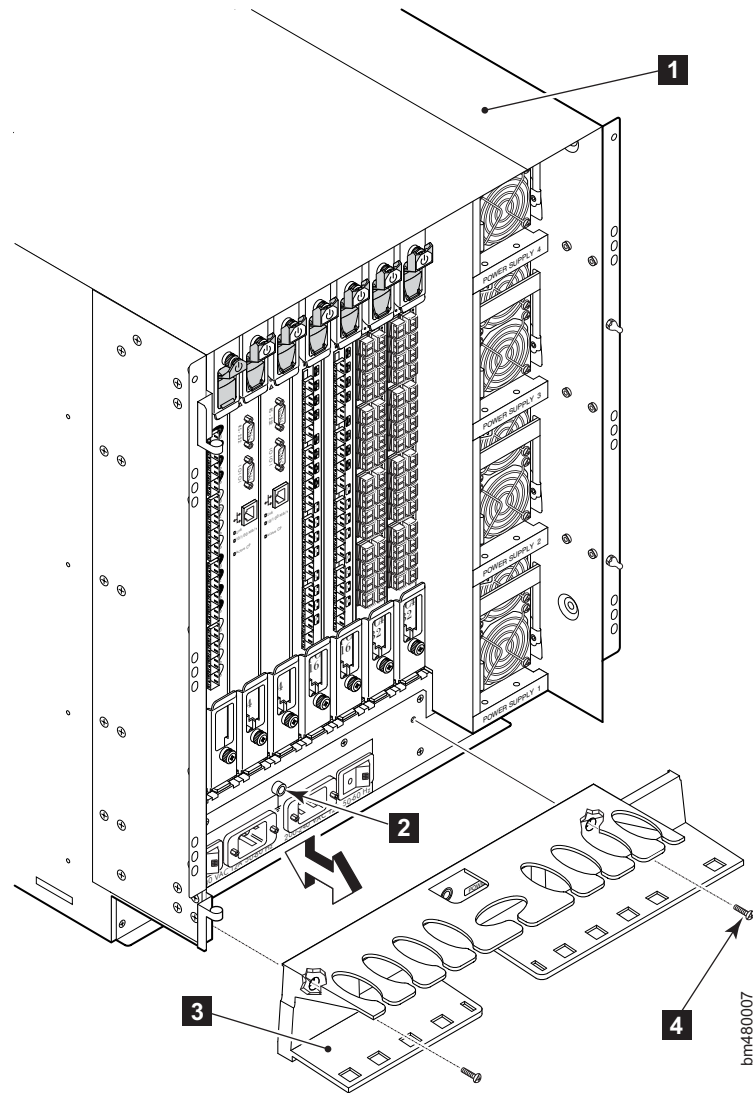

Figure 28. Cable management tray replacement
- **Cable management tray** (see Figure 25 on page 53).-- The cable management tray is attached to the bottom of the chassis (see Figure 28 on page 55) and can be used to route the power cables and other cables down below the chassis or out the sides of the chassis.
Use this procedure to replace the cable management tray (see Figure 28 on page 55). The director can continue to operate during the installation.
1. If the director is *not* operating: Orient tray as shown in Figure 28 on page 55, aligning the holes on the tray with the holes on the chassis. Then position and tighten the two screws. The cable management tray is installed. Continue to step 3.